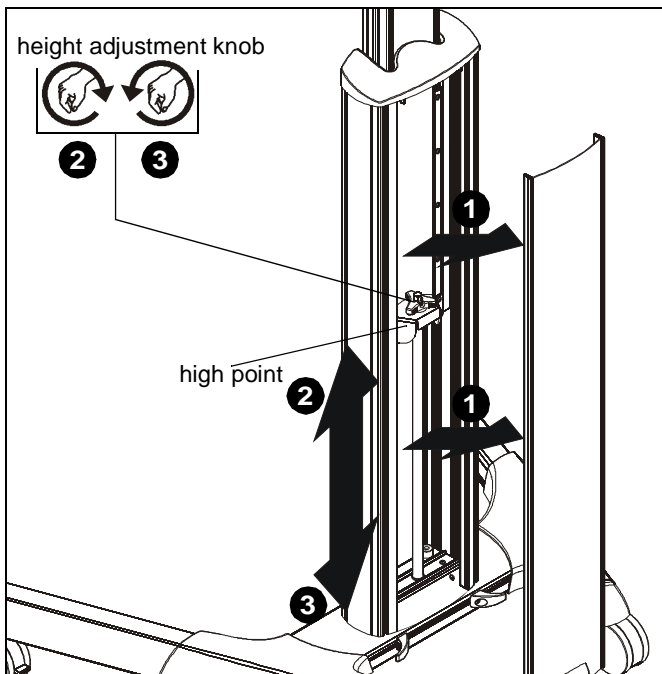

Figure 13
1. Remove cable cover (G) to expose height adjustment knob.
2. Turn height adjustment knob clockwise to raise display. (See Figure 13)
3. Turn height adjustment knob counterclockwise to lower display. (See Figure 13)